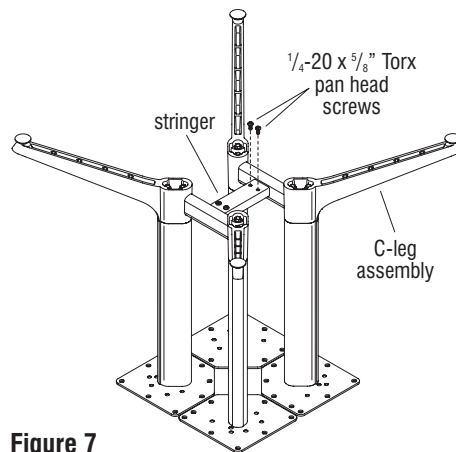

Figure 7
5. Align the stringer mounting holes with the stringer attachment bracket mounting holes, and secure together using two $\frac{1}{4}$ -20 x $\frac{5}{8}$ " Torx pan head screws (Figure 7 & Detail D).